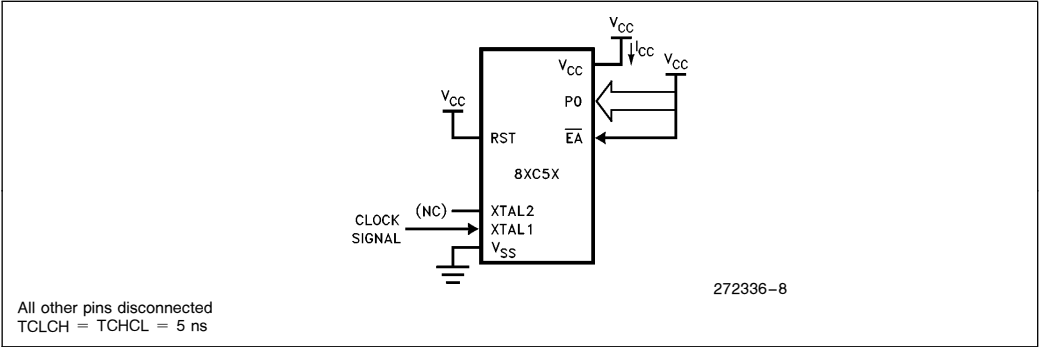

Figure 6. I_{CC} Test Condition, Active Mode
- See Figures 6–9 for test conditions. Minimum V_{CC} for Power Down is 2V.